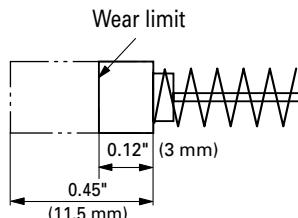

Fig. 32
4. Inspecting the carbon brushes (Fig. 32)